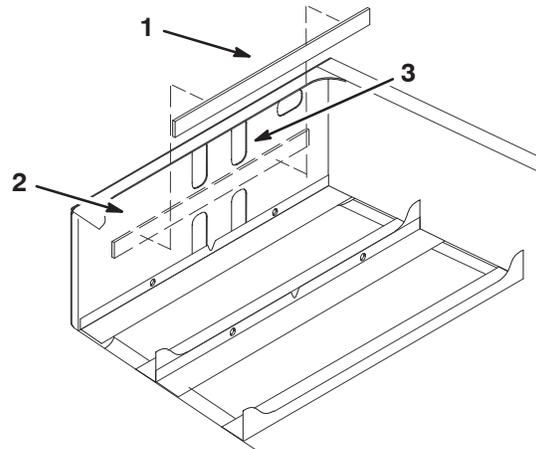

Figure 9
3. Remove the adhesive strip from the back of the battery pad and install it to the front inside face of the rear frame as shown in Figure 9.
Note: The pad should be approximately 1/4 inch below the bottom edge of the upper set of cut-out holes (Fig. 9).